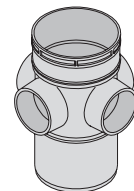

Fig.32b 120.412.2 Four-way Boss Pipe Solvent Socket/Spigot
**120.412.2** (solvent socket/spigot) (Fig.32b),